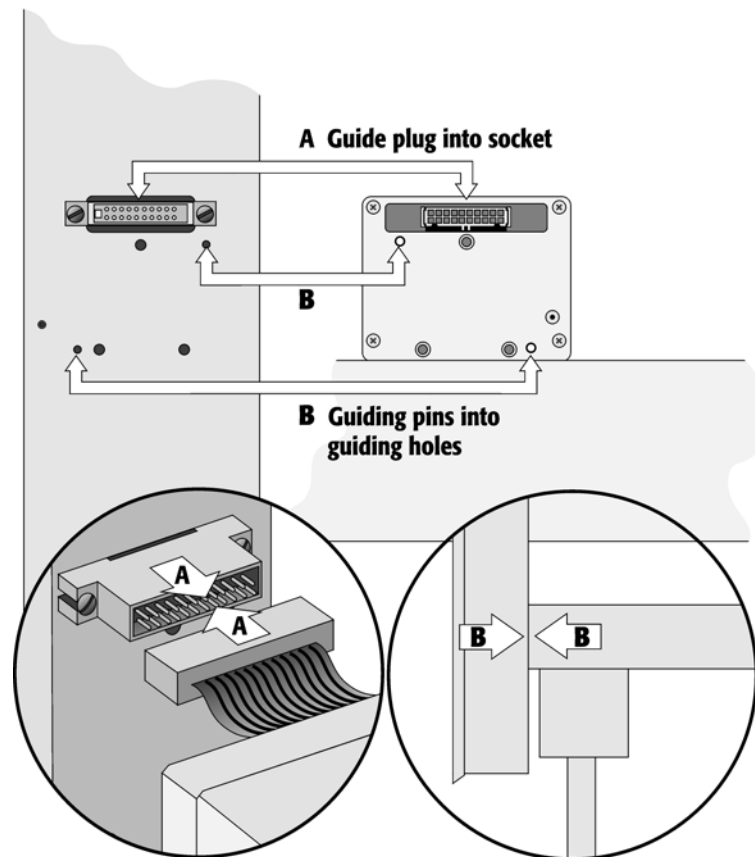

Figure 8. Connecting the Injection Unit Flat Cable
Installation of the Injection Unit should be done carefully. When installing it for the first time, have someone hold it in place while the mounting screws are inserted (see Figure 8).
- 2 Connect the flat ribbon cable A protruding from the front end of the Y Crossrail to the corresponding connector on the Injection Unit (see Figure 8).